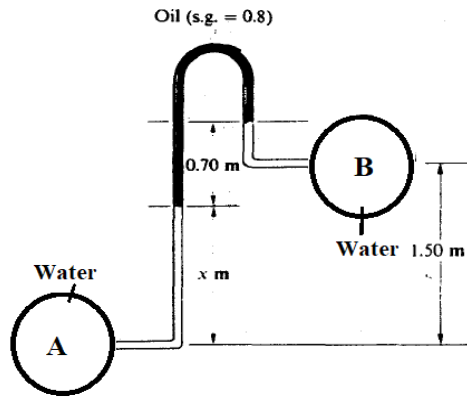

Fig.Q.2.b
b. State the basic principle involved in measuring pressure and pressure difference using manometers and also calculate the pressure difference between A and B for the setup shown in Fig. Q.2.b.